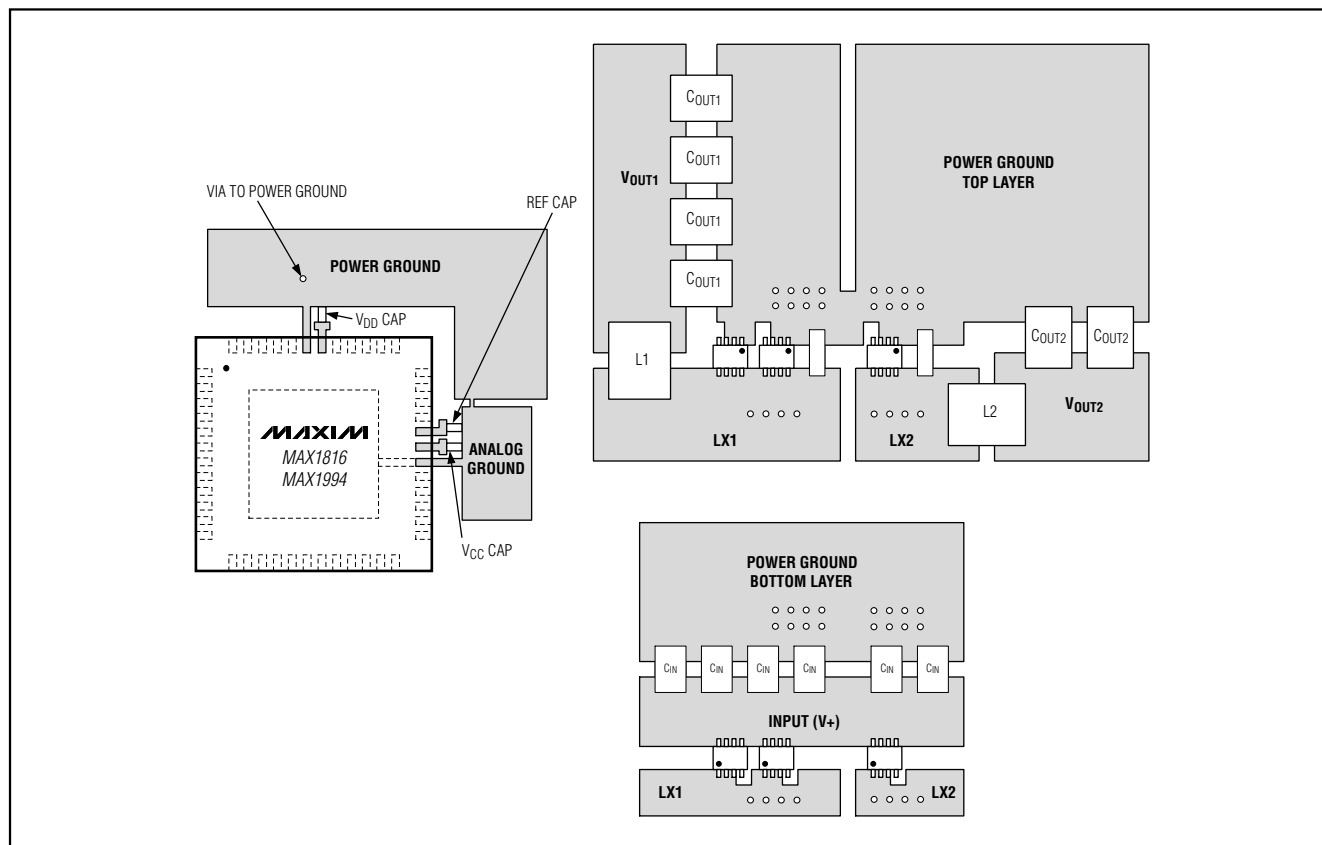

Figure 13. Power-Stage PC Board Layout Example
Careful PC board layout is critical to achieve low switching losses and clean, stable operation. The switching power stage requires particular attention (Figure 13). Refer to the MAX1816/MAX1994 EV kit data sheet for a specific layout example.
- 4) Make the MAX1816/MAX1994 controllers' ground connections as shown in Figure 13. This diagram can be viewed as having three separate ground planes: input/output ground, where all the high-